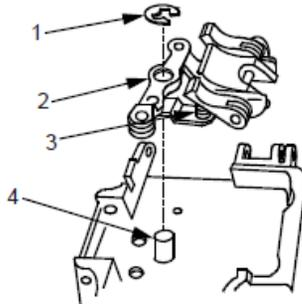
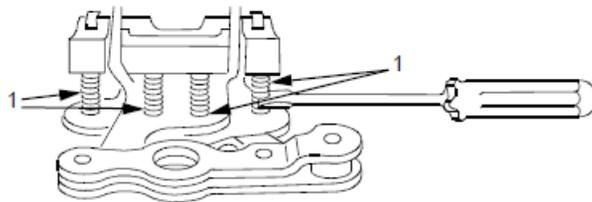

Figure 11. Retaining Ring, Feed Pawl Assembly, Feed Pawl Pivot Post.
Figure 12. Retaining Ring, Feed Pawl Assembly, Feed Pawl Pivot Post.
17. Using small screwdriver, remove retaining ring (Figure 11, Item 1) and discard. Separate feed pawl assembly (Figure 11, Item 2) from feed pawl pivot post (Figure 11, Item 3).
18. Visually inspect feed pawl assembly (Figure 11, Item 2) for distortions, cracks, burrs or excessive wear. Replace if damaged. Visually inspect springs (Figure 12, Item 1) for breaks, kinks, or lost tension. If any spring (Figure 12, Item 1) is damaged, disassemble by holding onto feed pawl assembly and insert flat tip screwdriver between first and second coil of spring (Figure 12, Item 1) just above the feed pawl assembly base and apply slight pressure upward to remove spring (Figure 12, Item 1). Remove the other three springs (Figure 12, Item 1) in the same manner. If any spring (Figure 12, Item 1) is weak, kinked, broken or missing, replace all four springs.